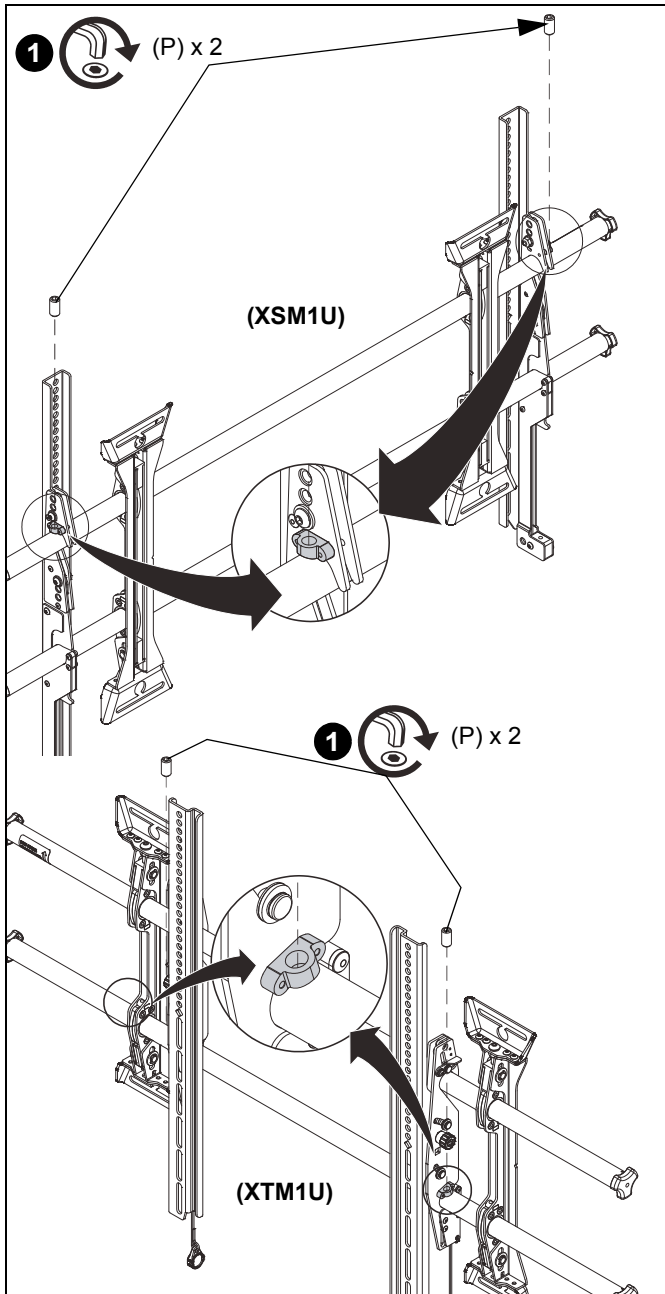

Figure 18
1. Lock screen interface brackets onto mount rails using one 3/8-16 x 3/4" set screw (P) on each interface bracket. (See Figure 18)